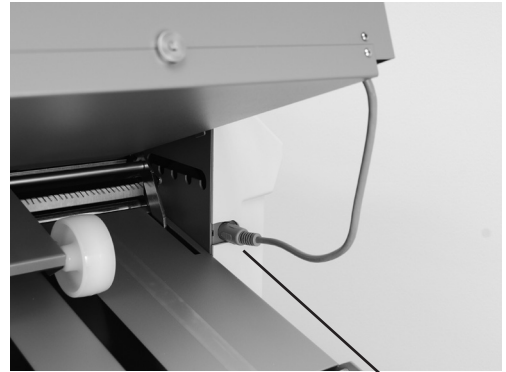

Fig. 3a
4. Plug the fold table cables into the receptacles on the side frame (Fig. 3a & 3b).